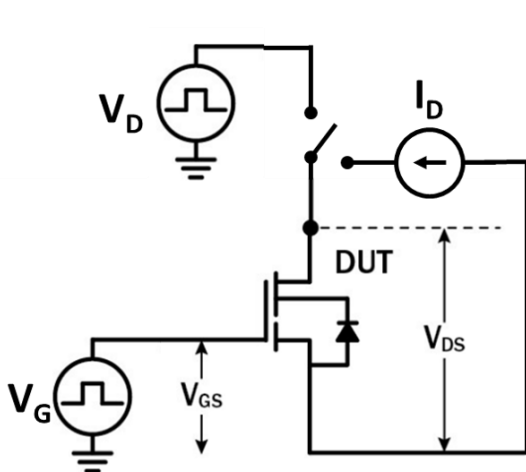

Figure 18. Dynamic $R_{DS(on)eff}$ Test Circuit
- Dynamic on-resistance; see Figures 18 and 19 for test circuit and conditions